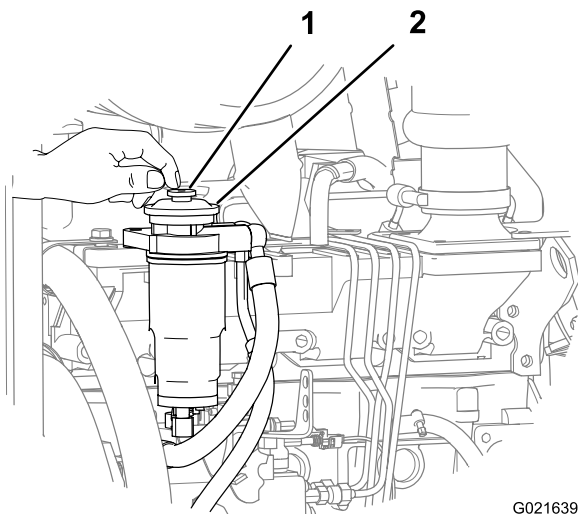

Figure 91
6. Locate the PRIMING button on the top of the filter adapter for the secondary-fuel filter (Figure 91).
7. Press down and release the PRIMING button repeatedly until you feel resistance when pressing the PRIMING button (Figure 91).